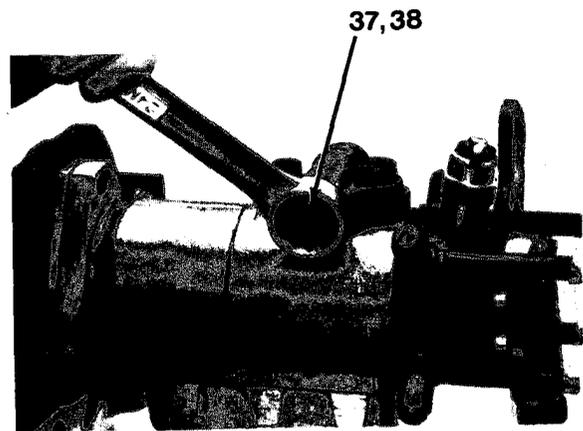

Figure 7-23
12. Remove pressure end cap (37) and O-ring (38, Figure 7-23) from timing housing.